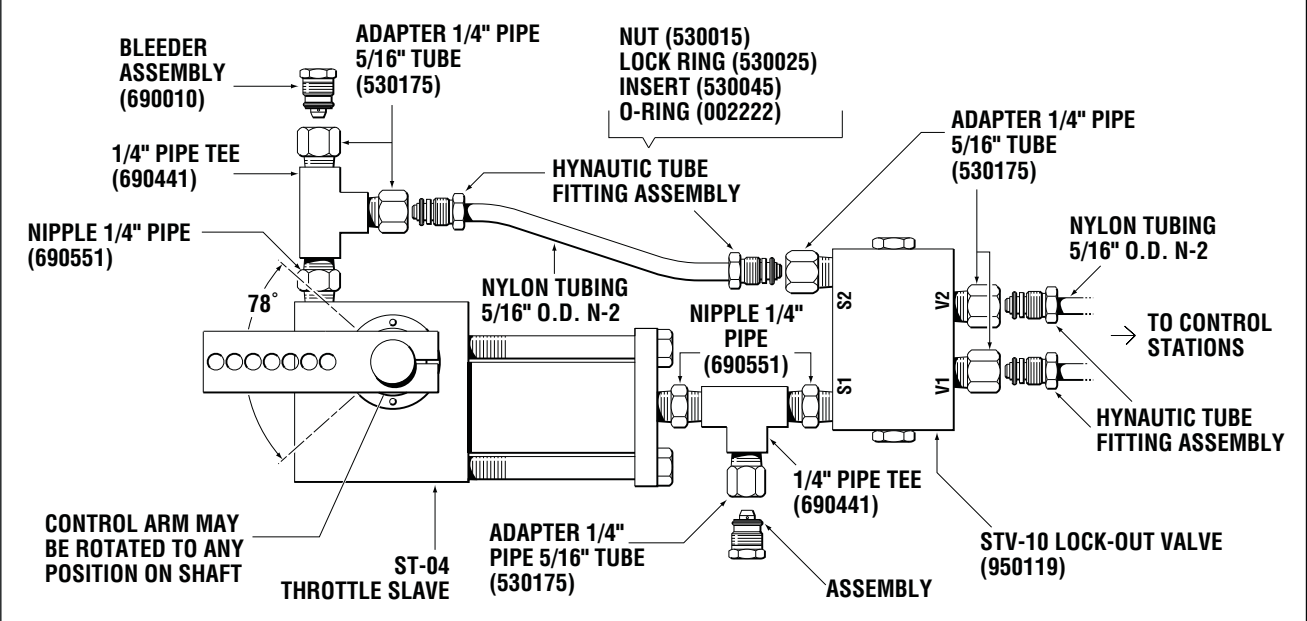

Figure 6. ST-04 Throttle Slave with STV-10 Lock-Out Valve.
If the throttle slave is in a limited space, it may be removed from the bracket during the lock-out valve installation. The STV-10 Lock Out Valve must be plumbed as shown in Figure 6. The lock-out valve will lock the slaves arm and allow it to be moved by only the sender. The check valve and slave must be mounted in close proximity to one another. If they're not, abnormal locking action and poor performance will result.
- 10 Install the lock-out valve on the throttle slave and secure it using clean lubricant or Loctite hydraulic sealant on the threads. Install appropriate adapters to accept tubing. Refer to Figure 6.
- 11** Using a short piece of tubing provided, connect the open port on the tee to the S2 port on the lock-out valve. See Figure 6. (See Figure 15 for Copper Tubing connection.) Plug open fittings at the V1 and V2 ports.